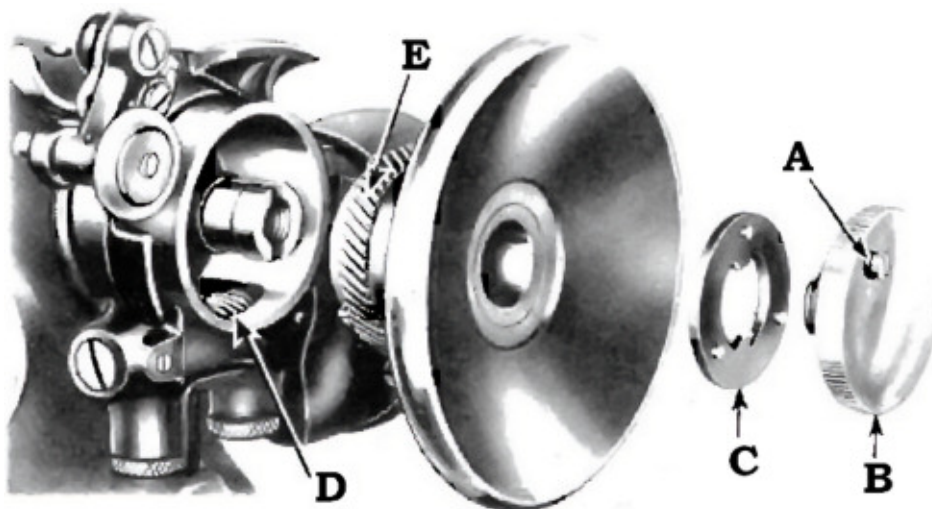

FIG. 18. BALANCE WHEEL REMOVED
Loosen stop screw (A, Fig. 18) and remove clamp screw (B, Fig. 18) by unscrewing it. Remove balance wheel together with stop motion clamp washer (C, Fig. 18).
When replacing the balance wheel, be careful not to injure the textolite gear (E, Figs. 18 and 19) when placing it in mesh with the spiral gear (D, Fig. 18) on the armature shaft. Replace the stop motion clamp washer (C) so that when the stop screw (A) is tightened, it is a sufficient distance to the right of one of the three studs on the washer (C) to permit enough counter-clockwise rotation of the clamp screw (B) to stop sewing action of the machine during the winding of the bobbins.